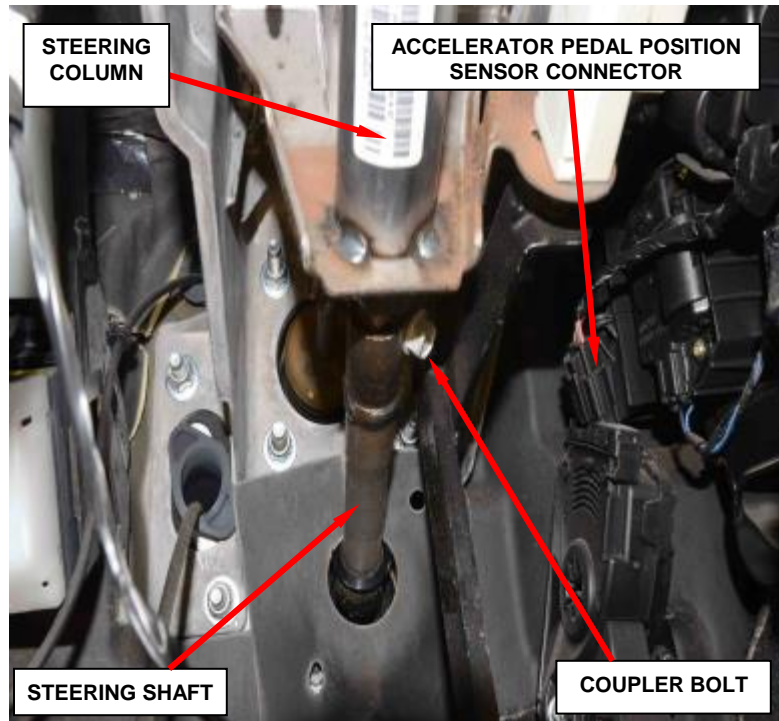

Figure 55 – Steering Shaft Coupler
14. Remove and **discard** the upper steering shaft coupler bolt from the column (Figure 55).